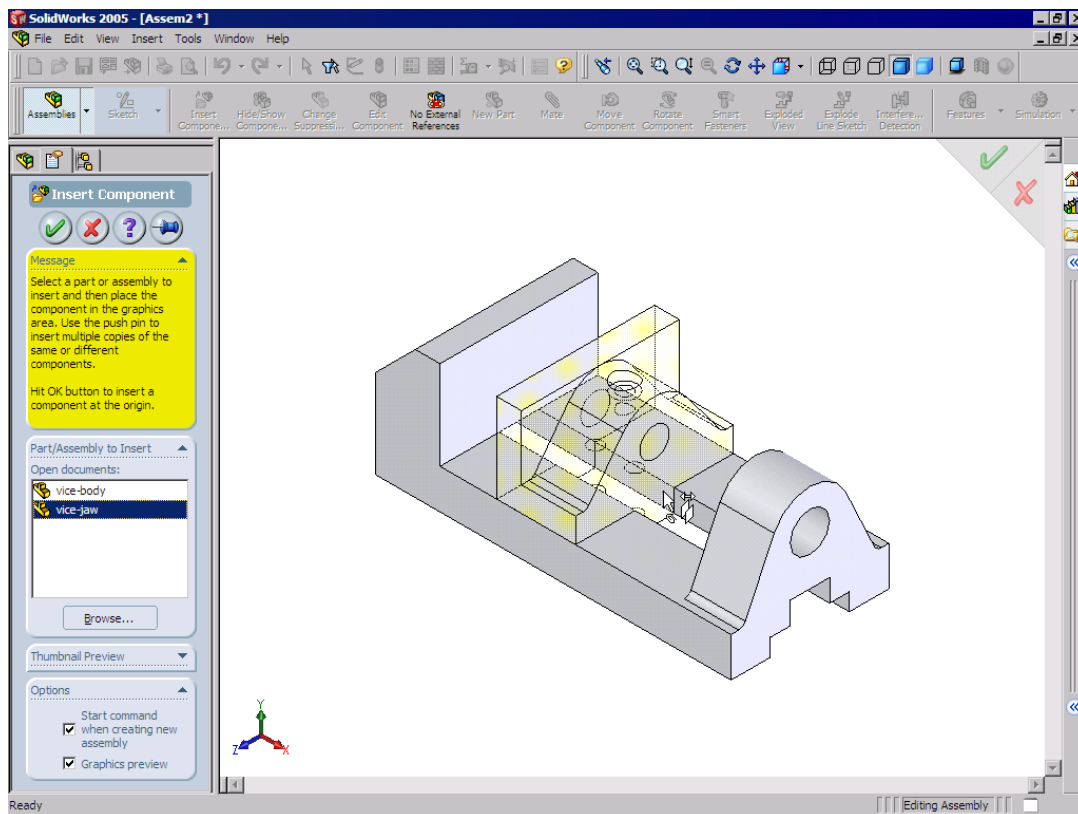
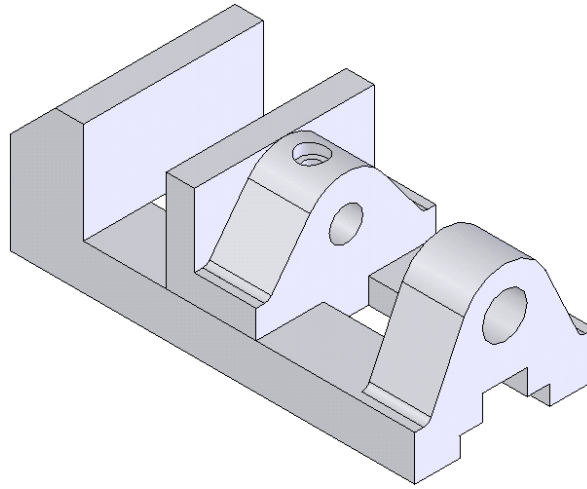

Figure 10-56 Second component being dragged
Figure 10-57 Vice Jaw assembled with the Vice Body
- Vice Jaw because the mate references are already defined in both part documents, refer to Figures 10-56 and 10-57.
Figure 10-56 shows the second component being placed in the assembly document and Figure 10-57 shows the Vice Jaw assembled with the Vice Body.